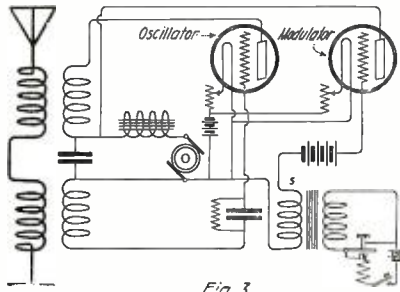
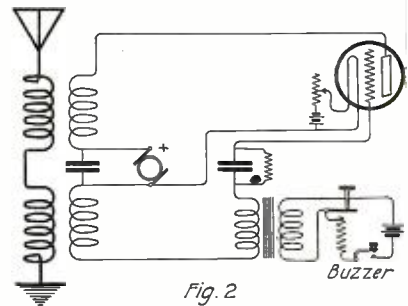

Fig. 3
Fig. 2
2. Use of a buzzer or other similar device for modulating the radio frequency output of the valve. Any of the accepted methods is applicable, as the insertion of the buzzer in the grid circuit of the R. F. oscillating tube, Fig. 2, or the use of the buzzer in conjunction with a modulating tube, Fig. 3.